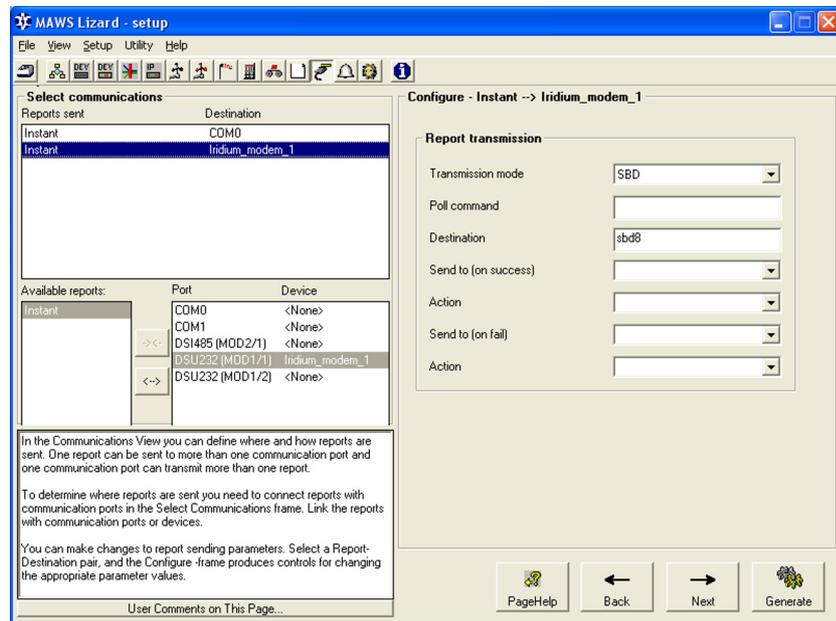

Figure 85 Communications View: Selecting Report Transmission Options for Iridium
5. In the **Select Communications** frame, link a report to the Iridium mode. See Figure 85 on page 194.
6. Select the Short Burst mode in the **Report transmission** frame by choosing SBD from the **Transmission mode** list; see Figure 85 on page 194.